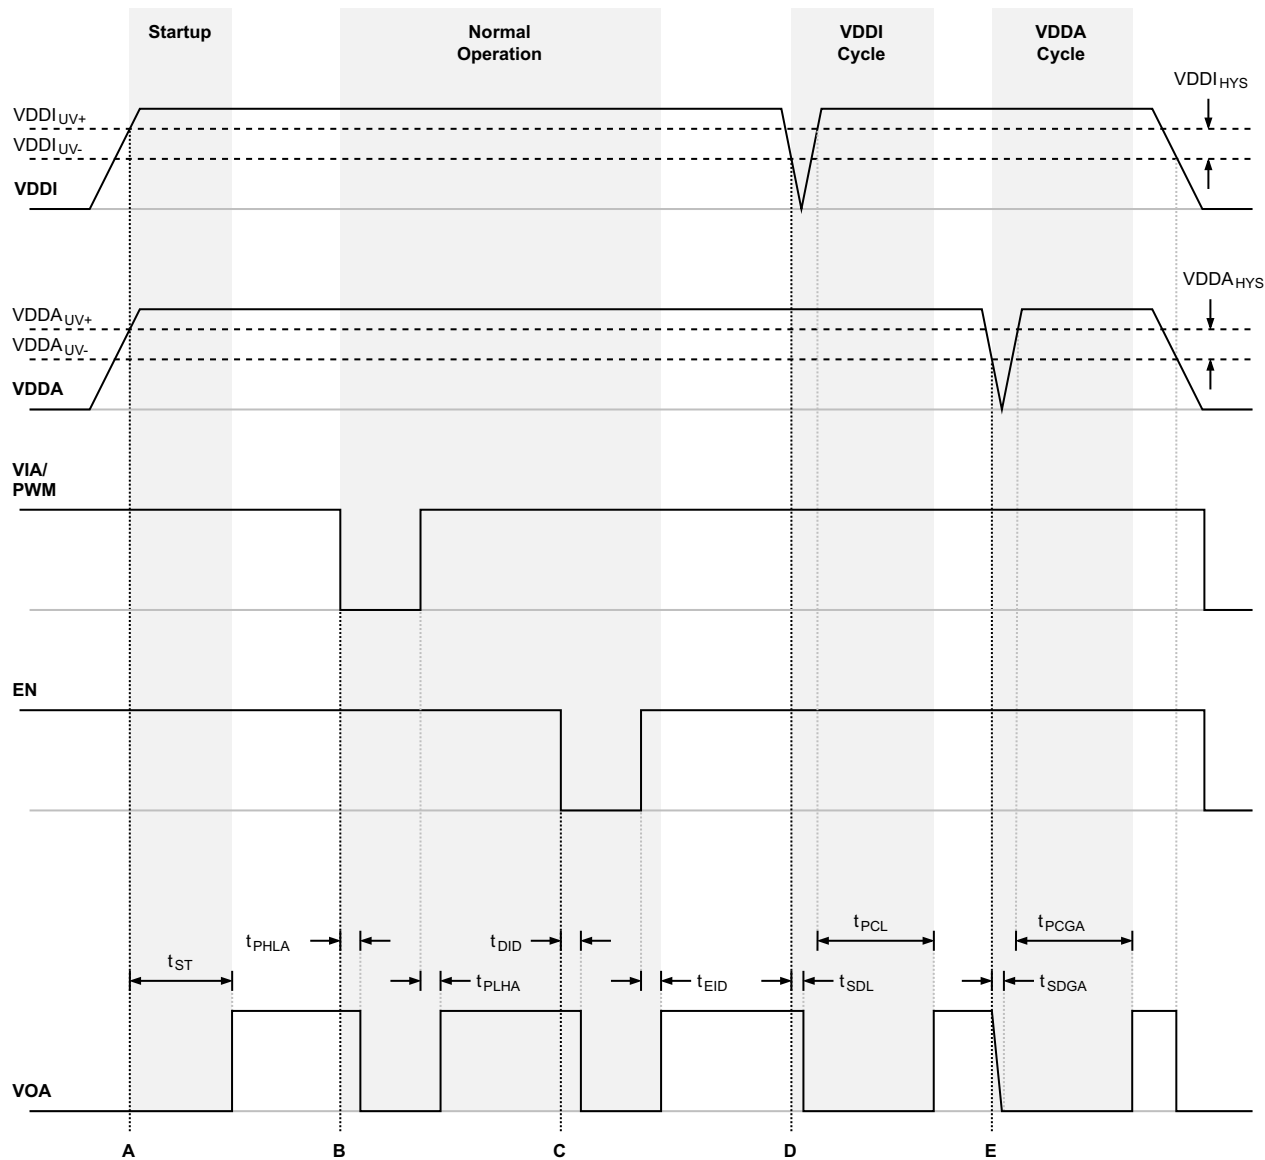

Figure 13. Gate Driver Timing Behavior
The device exhibits different timing behavior depending on the state of the power supplies as well as the driver inputs. Figure 13, “Gate Driver Timing Behavior,” below shows how the analog power supply voltages are plotted against the digital input and output state of the device, with relevant device timings listed.
For devices with an enable (EN) input, when the EN input is driven low, it unconditionally drives VOA and VOB low regardless of the states of VIA and VIB. Device operation terminates within t_{DID} after EN falls below V_{IL} and resumes within t_{EID} after EN rises above V_{IH} . For devices with a disable (DIS) input, when the DIS input is brought high, it unconditionally drives VOA and VOB low regardless of the states of VIA and VIB. Device operation terminates within t_{DID} after DIS rises above V_{IH} and resumes within t_{EID} after DIS falls below V_{IL} . See Figure 13, "Gate Driver Timing Behavior," on page 11 for more details. The EN and DIS inputs have no effect if VDDI is below its UVLO level (i.e., VOA, VOB remain low).